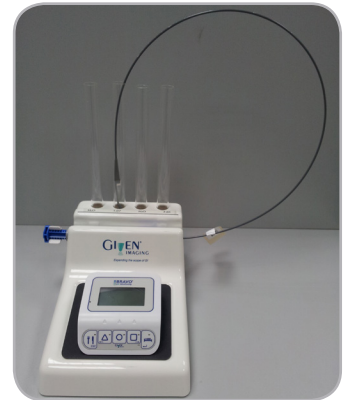

Fig. 1
- Position calibration stand on a level surface and place a calibration tube into each of the 4 holders. Place the recorder on the calibration stand. (Fig. 1)